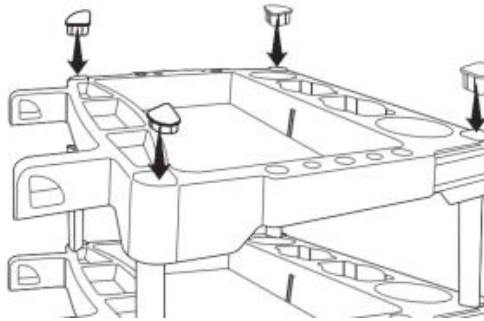

Fig. 5
6. Insert the four end caps (5) into the top tray (Fig. 5).